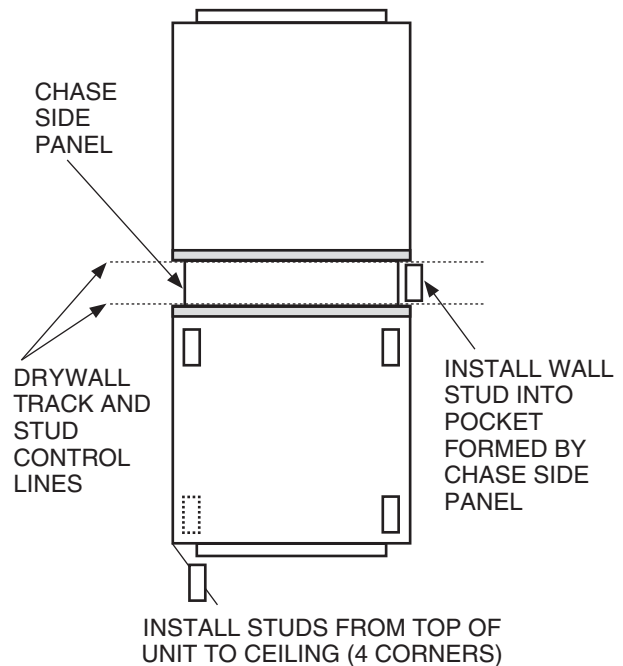

Fig. 13 — 42SJ Wall Board Installation
- a. Lay out the control lines for the drywall track and studs in the floor and ceiling (see Fig. 13).
- d. Position the vertical studs and fasten into each of the stud pockets formed into the chase side panels (see Fig. 13).